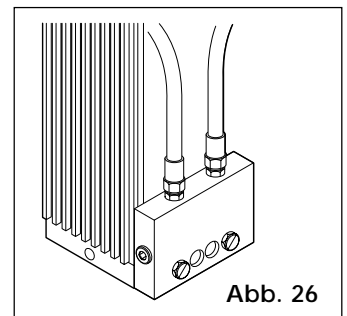

Abb. 26
**SABOTAGE-SCHUTZVENTIL (Abb. 26)**